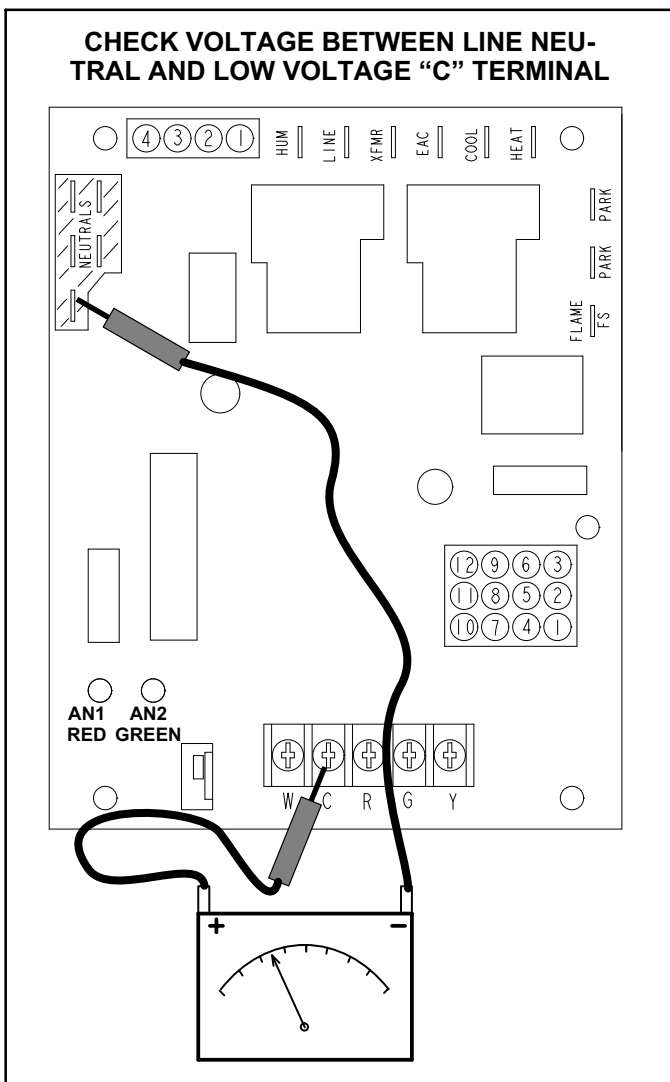

FIGURE 61
- 1 - Measure the AC voltage between Line Neutral (spade terminals) and "C" terminal (low voltage terminal block) on the integrated control. See figure 61. A wide variation in the voltage between Line Neutral and "C" as a function of load indicates a poor or partial ground. Compare the readings to the table below. If the readings exceed the maximum shown in table 1, make repairs before operating the furnace.